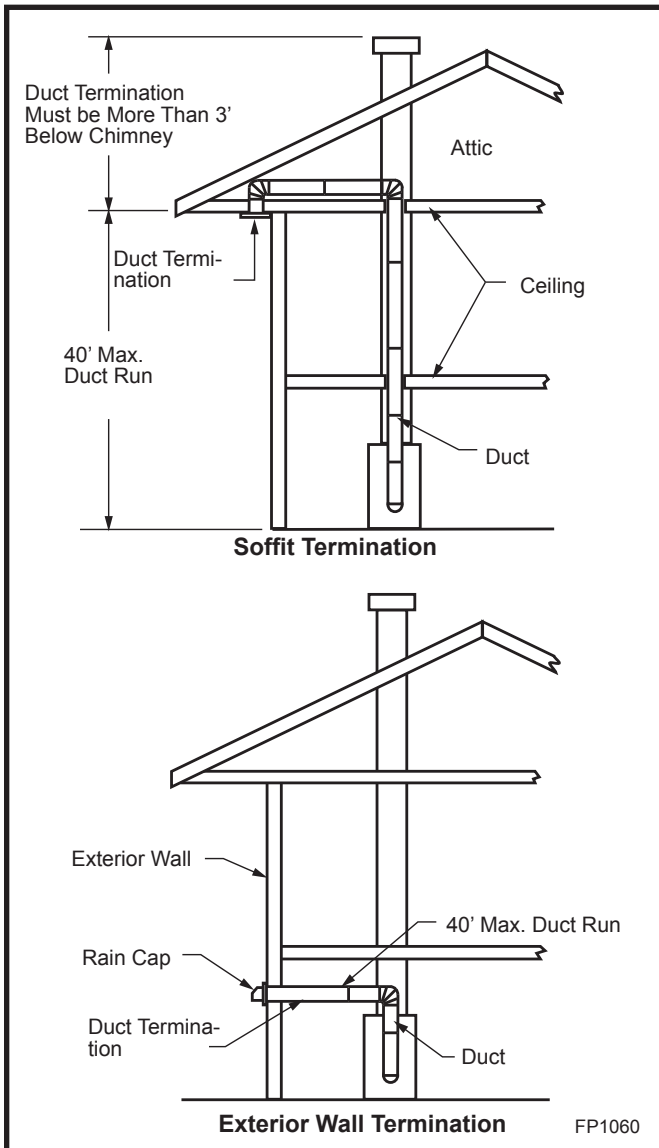

Fig. 15 Typical installations.
The duct run may be horizontal, vertical, inclined or any combination of these. Vertical duct runs must be at least three (3) feet below the fireplace chimney flue exit. (Fig. 15) You are now ready to install the AK-MST Outside Air Kit.